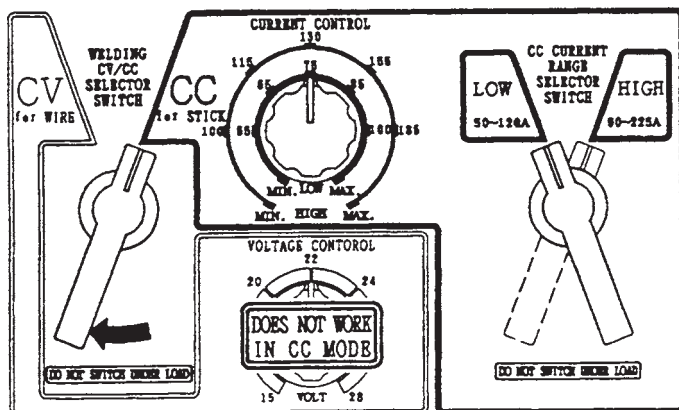

Figure 22. Welding Current Adjustment
2. Turn the CV/CC **Selector Switch** (Figure 22) to the **CC** position.